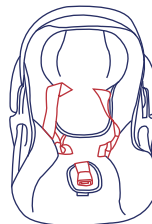

Fig. 37-1
- 14.3) Place the Safety Seat on a firm and level surface. Move the carry handle to the non rocking position. Loosen the Harness Straps by pulling on the straps while pushing on the Harness Adjuster Button located below the pad just in front of the buckle. Unfasten the Harness Chest Clip. Unbuckle the Harness Straps and drape the Harness Straps over the Seat back or to the sides of the Safety Seat. Please see figure 37-1.